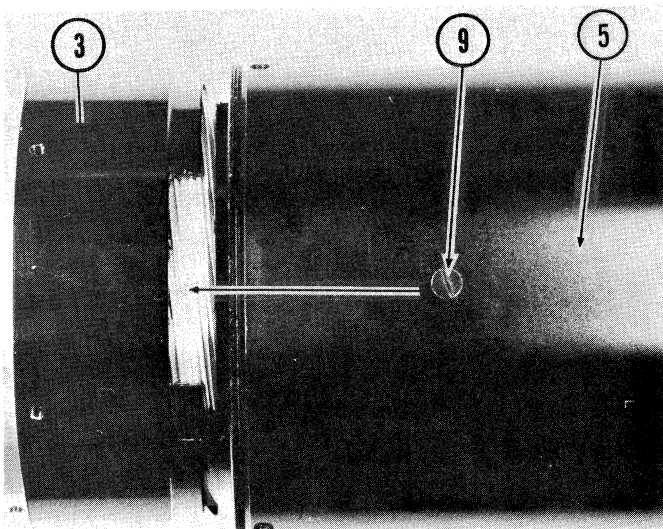

Fig. 19
5. Assemble Infinity Stop Screw (9) to Inner Focusing Ring (5).
6. Assemble Inner Focus Ring to Outer Helicoid, taking care that Infinity Stop Screw aligns with cutout of the Outer Helicoid (Refer to p.14, Fig. 19). Secure Inner Focus Ring to Outer Helicoid with one screw (B), preferably the middle hole of the three-hole group in the Outer Helicoid or the second hole from the left, as viewed from the rear of the lens, in the case of the four-hole version
11. Change 3rd Lens Element from old first lens group housing to new housing. Remove 3rd Lens Element Retaining Ring (205) from old lens group housing (203). Carefully change 3rd Lens Element to new housing, holding it in place with the retaining ring. Seal the threads with thread sealant.
- STEP: 14. Refocus Lens - Follow Procedure in Section 10.0 of the Manual. If, in Section 10.6, 1st Lens Group is screwed to Bottom of Outer Helicoid and Infinity Focus cannot be reached, change position of screw (B) one hole to right of center hole in Outer Helicoid, as viewed from the rear of the Lens. If Infinity is reached but Filter Ring will not properly seat on the Lens, move location of screw (B) one hole to left of center hole, as viewed from rear of Lens (Fig. G). Repeat Refocusing Procedure as necessary to achieve Optimum Infinity Focus at 70mm and 210mm Focal Length Positions.
- 2.3.11 When reassembling Inner Focusing Ring (5) to Outer Helicoid (3), align Helicoid Stop Screw (9) with cutout in Outer Helicoid, as shown in Fig. 19. Align three holes in Inner Focusing Ring with mating holes in Outer Helicoid, and install three flathead screws (B).